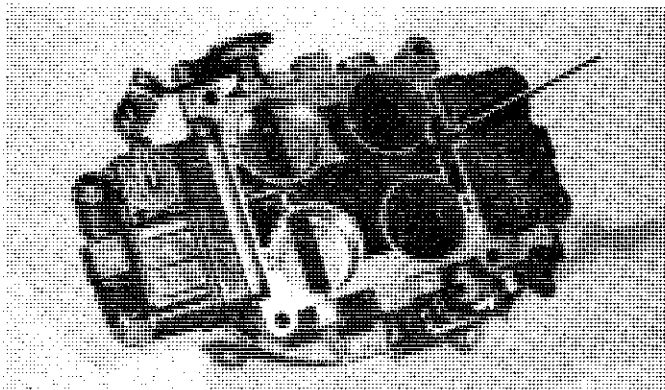

Fig. 2
2. Using an Allen Head Wrench, remove the Allen Head Screw that goes through the primary shaft, and remove the primary throttle shaft. (See Fig. 2)